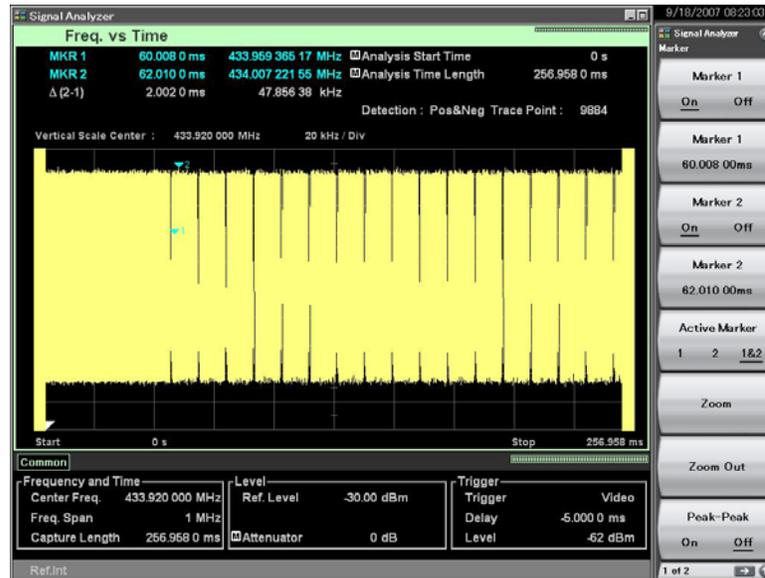

FIGURE 4.
- 9) Make the following settings in the Signal Analyzer mode to examine the FSK frame. The large memory size of the MS269xA allows the user to capture and see the whole frame including the wake-up sequence and the coded message. The entire frame is shown in *Figure 4*.